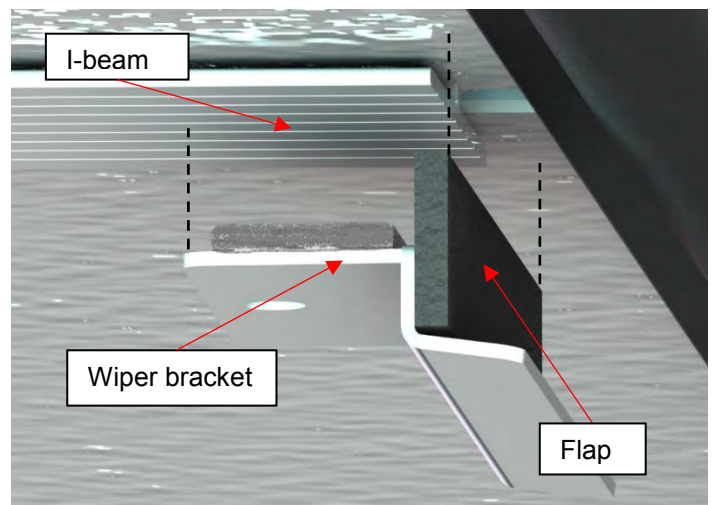

Figure 111
- 3) Under the cover locate an I-beam and orient the wide flap of the wiper bracket outwards of cover (Figure 111).